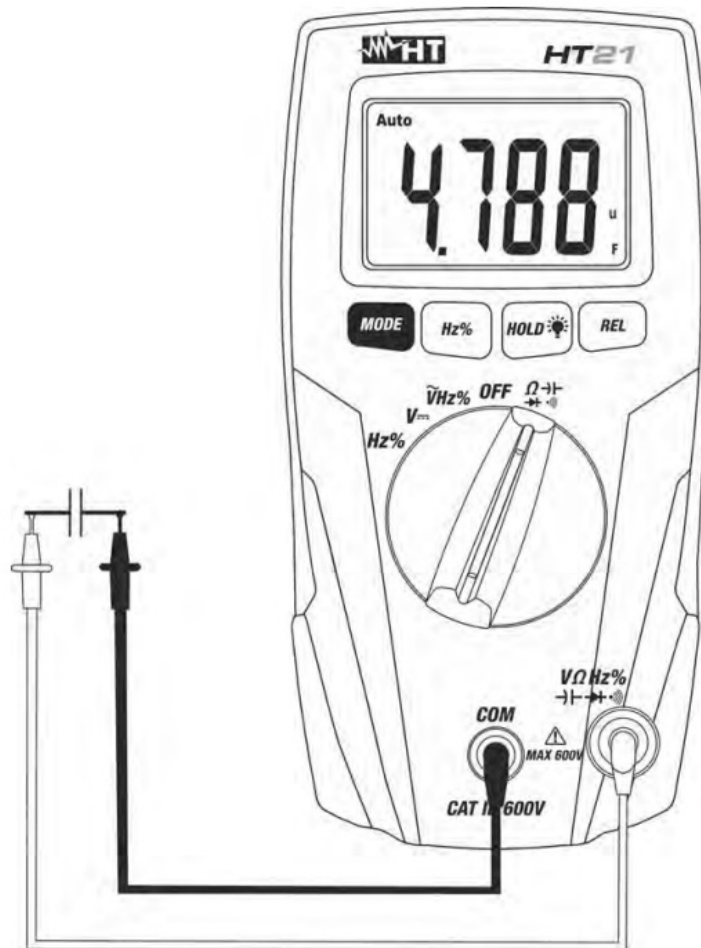

Fig. 2: Using the meter for DC Voltage measurement
3. Connecting the red and black test leads to the positive and negative poles of the circuit under test respectively (see Fig. 2). The voltage value is displayed
5. The symbol “-” on the instrument display indicates that voltage has an opposite direction with regard to the connection of Fig. 2